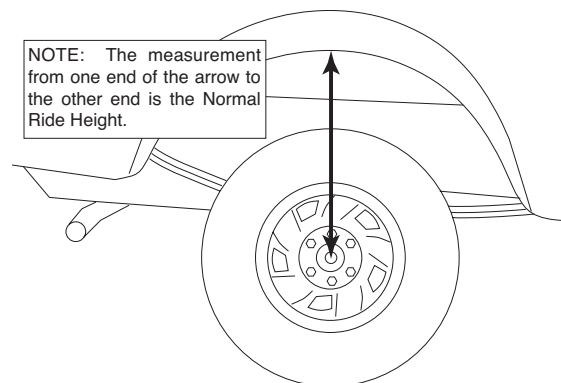

fig. 2
2. Measure the distance between the center of the hub and the bottom edge of the wheel well (see Figure 2). This is the Normal Ride Height. Enter the measurement below: